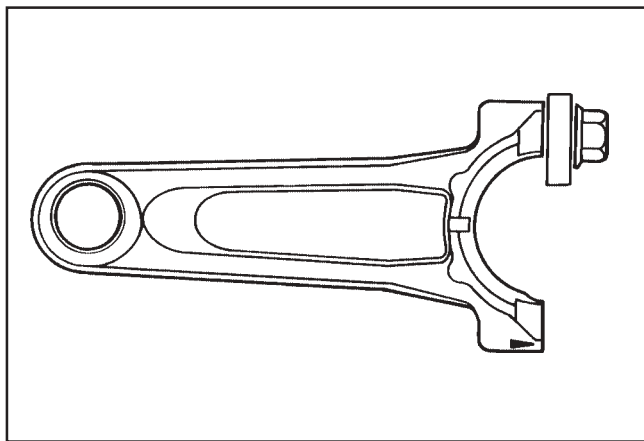

Figure 2-2. Rocker Arm/Crankshaft Tool.
4. Use a flat washer with the correct I.D. to slip on the capscrew and approximately 1" O.D. (Kohler Part No. 12 468 05-S). Assemble the capscrew and washer to the joint surface of the rod, as shown in **Figure 2-2**.